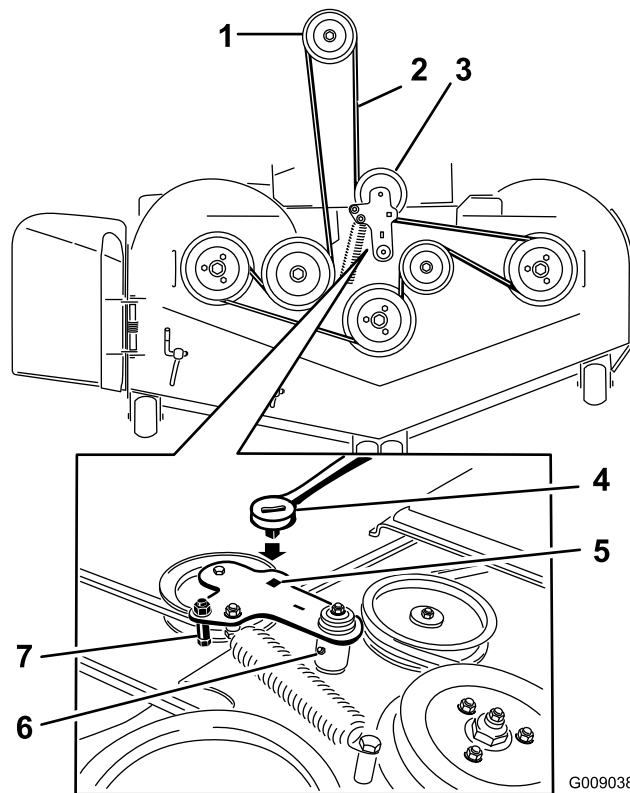

Figure 73
5. Use a ratchet in the square hole in the idler arm to remove tension on the idler spring (Figure 73).
7. Remove the belt guide on the spring loaded idler arm shown in Figure 73.
9. Install the new belt around the mower pulleys and the clutch pulley under the engine (Figure 73).
10. Install the belt guide on the idler arm shown in Figure 73.
11. Using the ratchet in the square hole, install the idler spring (Figure 73).